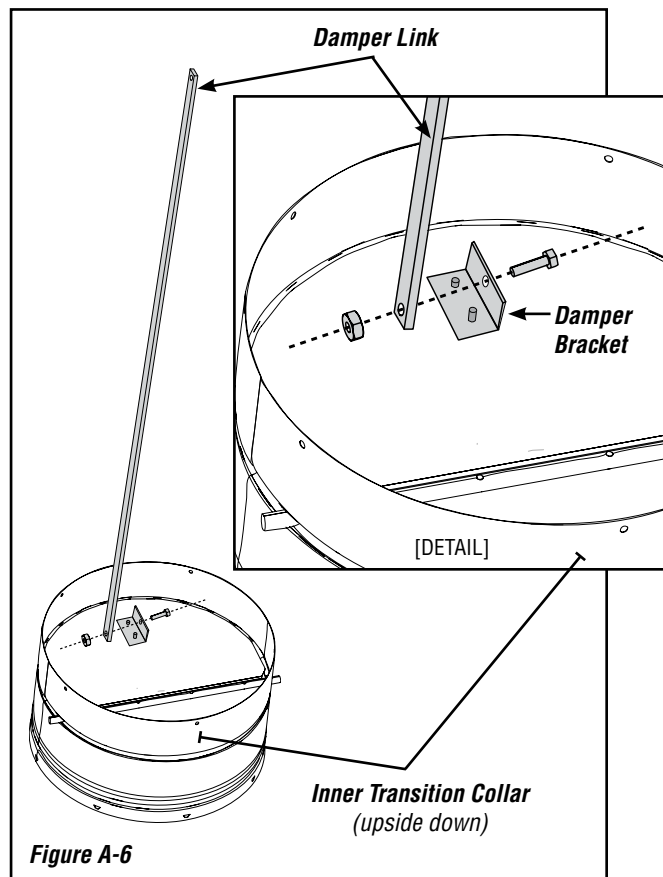

Figure A-6
- 4.1. Turn the inner transition collar upside down, and attach the damper link to the damper bracket with the enclosed 1/4-20 bolt and nut, as shown in **Figure A-6**, below.